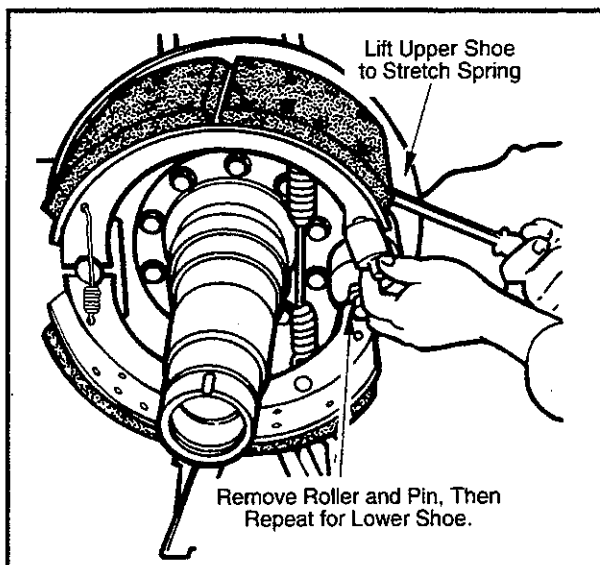

Figure 6—Lift Upper Shoe
3. Lift upper shoe to stretch return spring. (See Figure 6—Lift Upper Shoe)